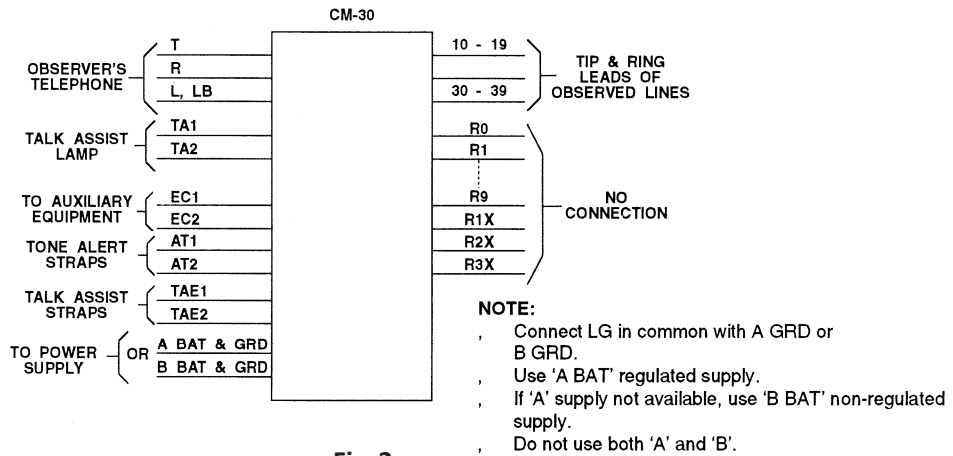

Fig. 2
4.1 Special installation tools are not required. Mount the CM-30 in an apparatus cabinet, relay rack, or on a wall. Connect the two CM-30 plugs to 25-pair connector cables and secure them with the clamps and screws provided. Plug in power supply Dees Model 368 (or tie down as in Figures 2 and 5).
4.2 Cross connect as shown in Figures 2 and 5.